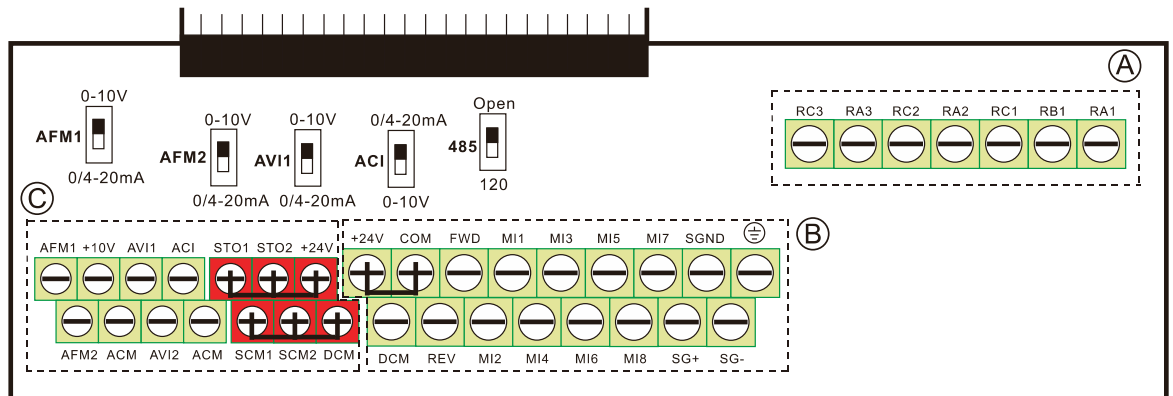

Figure 1
1. Switch AFM2 (SW2) to 0~20mA on the I/O control terminal block. (Refer to Figure 1, PT100 wiring diagram)
2. Wiring (Refer to Figure 1, PT100 wiring diagram):